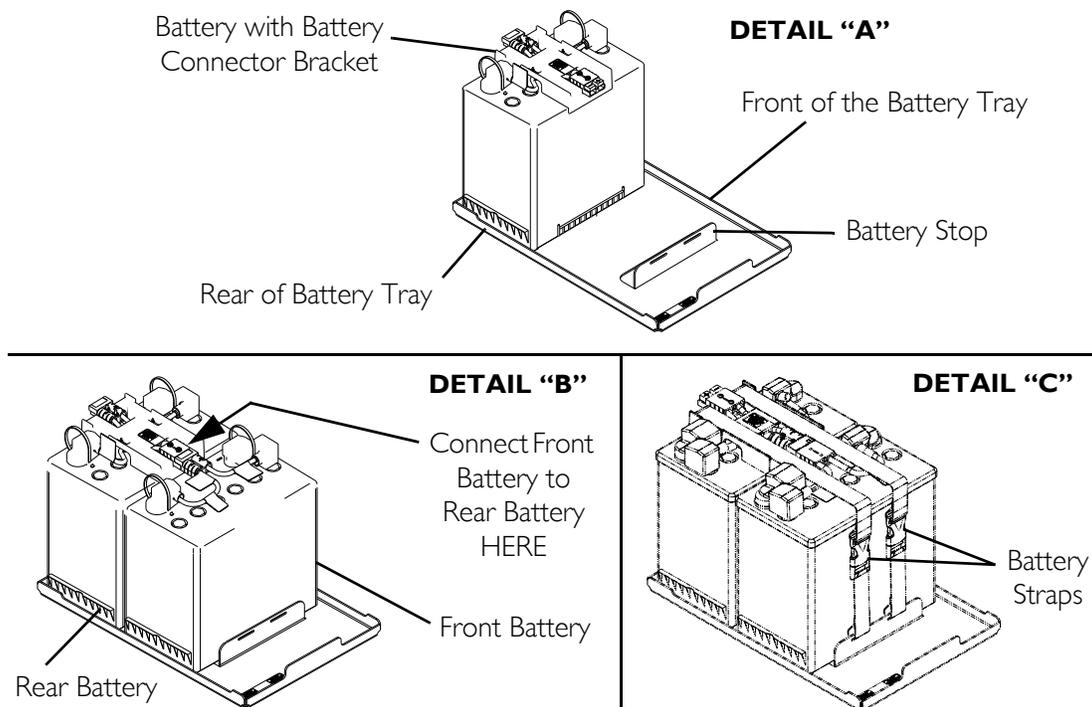

FIGURE 9.4 Installing Batteries into Wheelchair
NOTE: For this procedure, refer to FIGURE 9.3 on page 73 and FIGURE 9.4.
NOTE: Positioning of the batteries into the battery tray is completed with battery tray positioned in wheelchair and partially pulled out. Refer to FIGURE 9.3 for full view of wheelchair base. Illustrations in FIGURE 9.4 are shown without the wheelchair for clarification purposes only.
1. Position the battery with battery connector bracket in the rear of the battery tray in the orientation as shown (Detail "A" of FIGURE 9.4).
2. Position the remaining battery in the front of the battery tray in the orientation shown so that the wiring harnesses can be connected together (Detail "B" of FIGURE 9.4).
3. Connect front battery to rear battery (Detail "B" of FIGURE 9.4).
4. Connect battery straps (Detail "C" of FIGURE 9.4).